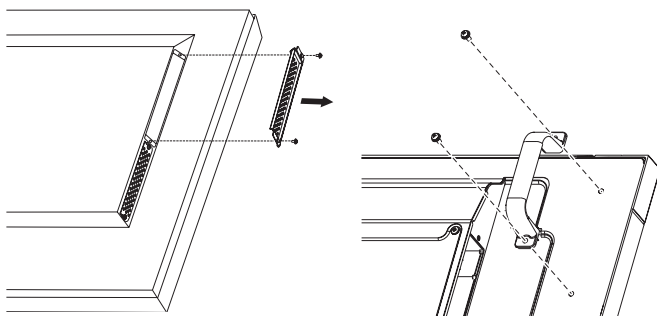

Figure 1
3. Remove the attached slot cover by unscrewing the installed screws (Figure 1).